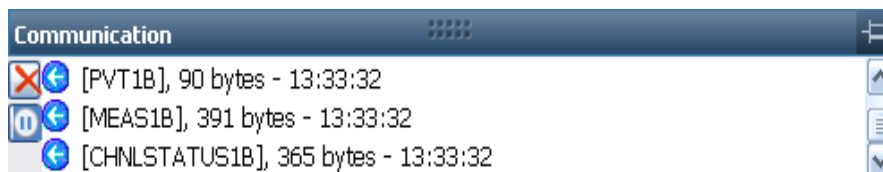

Figure 26: Communication Window – Connection at Incorrect Baud Rate
- COM Port Connection:** Scrolling lines designated as “DATA” indicate a connection is established, but the receiver’s baud rate is not correct (see Figure 26).